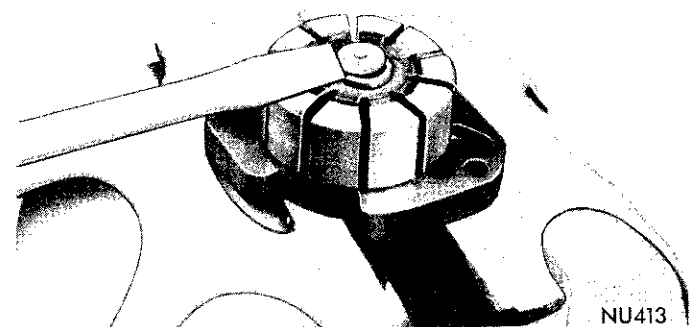

Fig. 9—Removing Full Diameter Lock Ring
(13) If necessary to disassemble flow control valve for cleaning, see "Flow Control Valve Disassembly".
(14) After lifting pressure plate and cam ring from rotor, remove ten vanes from slots in rotor.
(15) Clamp drive shaft in soft jawed vise, with rotor and thrust plate facing up.
(16) Remove rotor lock ring, pry ring off drive shaft using a screw driver (Fig. 9). Exercise care to avoid nicking the rotor end face. Discard ring.
(17) Slide rotor and thrust plate off of shaft and remove shaft from vise.